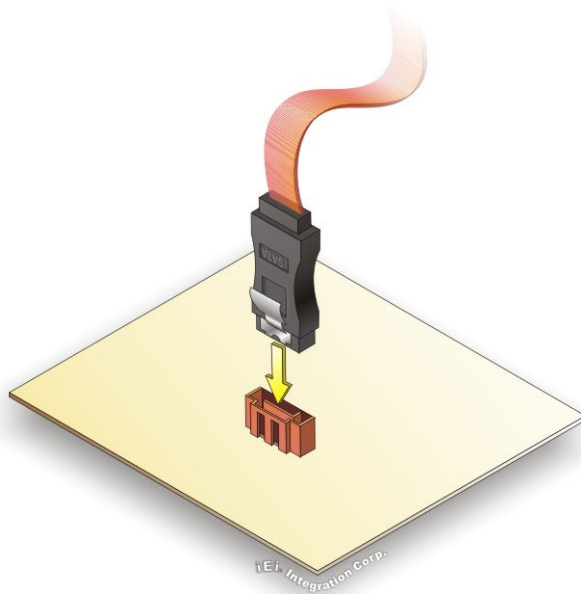

Figure 4-20: SATA Drive Cable Connection
Step 2: Insert the cable connector. Insert the cable connector into the on-board SATA drive connector until it clips into place. See **Figure 4-20**.